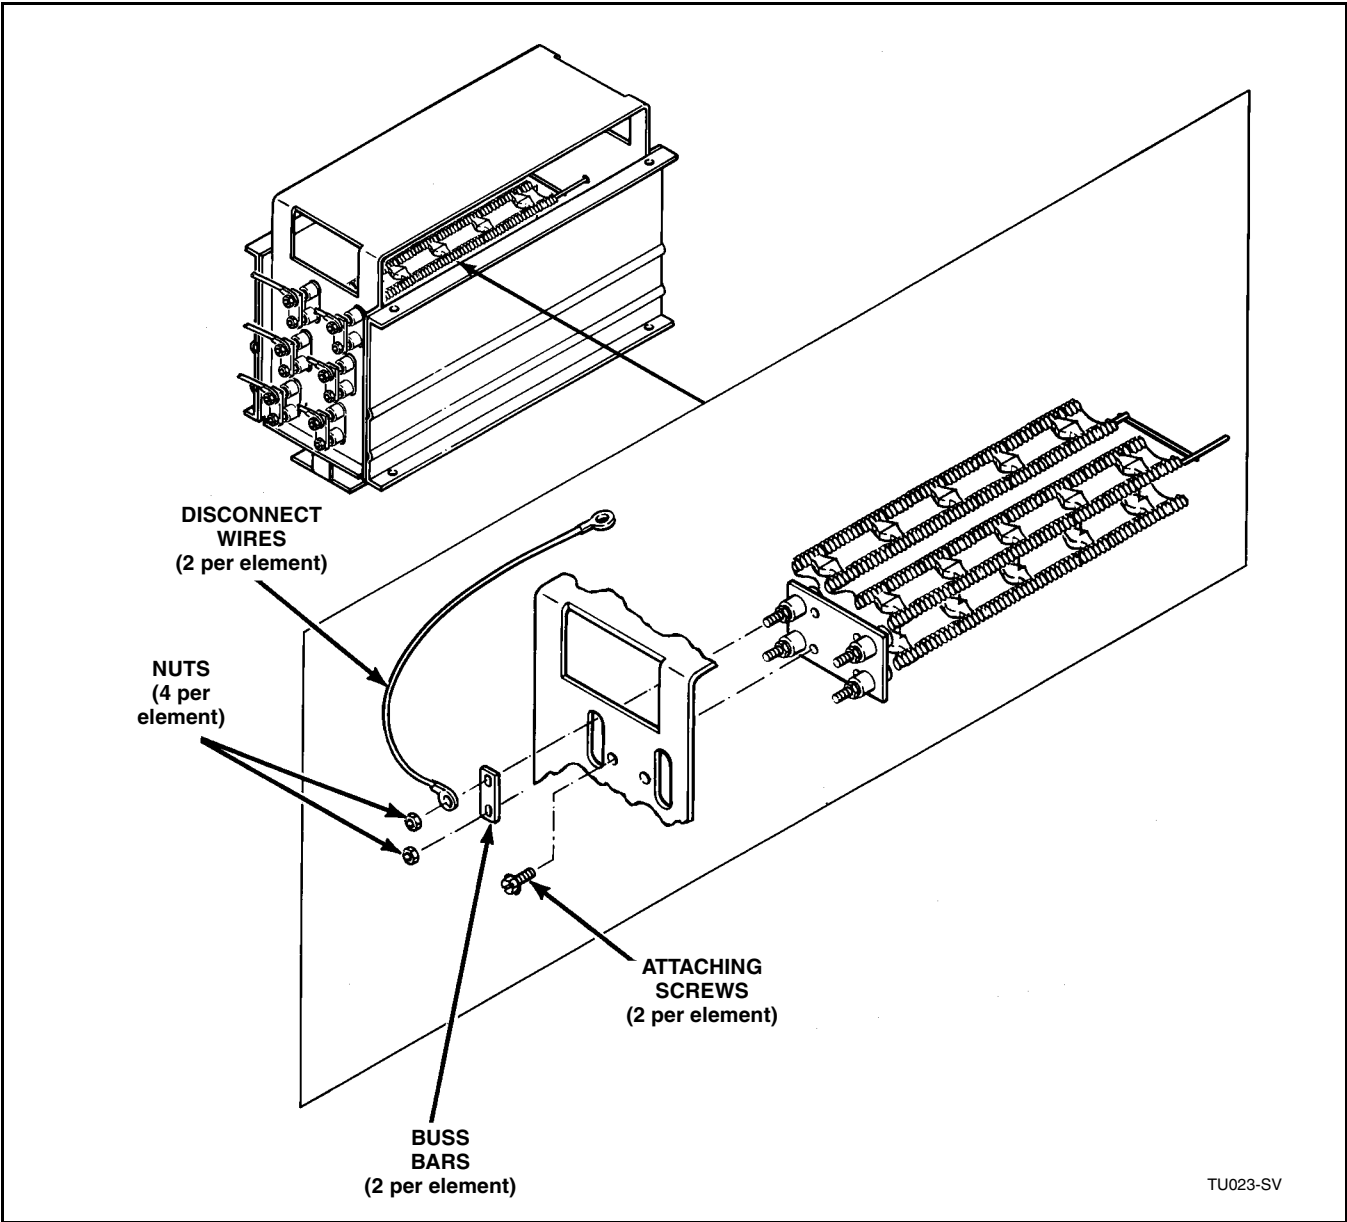

Figure 14
- b. Remove nuts, disconnect wires and buss bars from element terminals. Refer to *Figure 14*.
- c. Remove screw holding element to rear of heater housing. Refer to *Figure 14*.
- d. Slide element toward front of tumbler and carefully lift element up and out of heater housing. Refer to *Figure 14*.